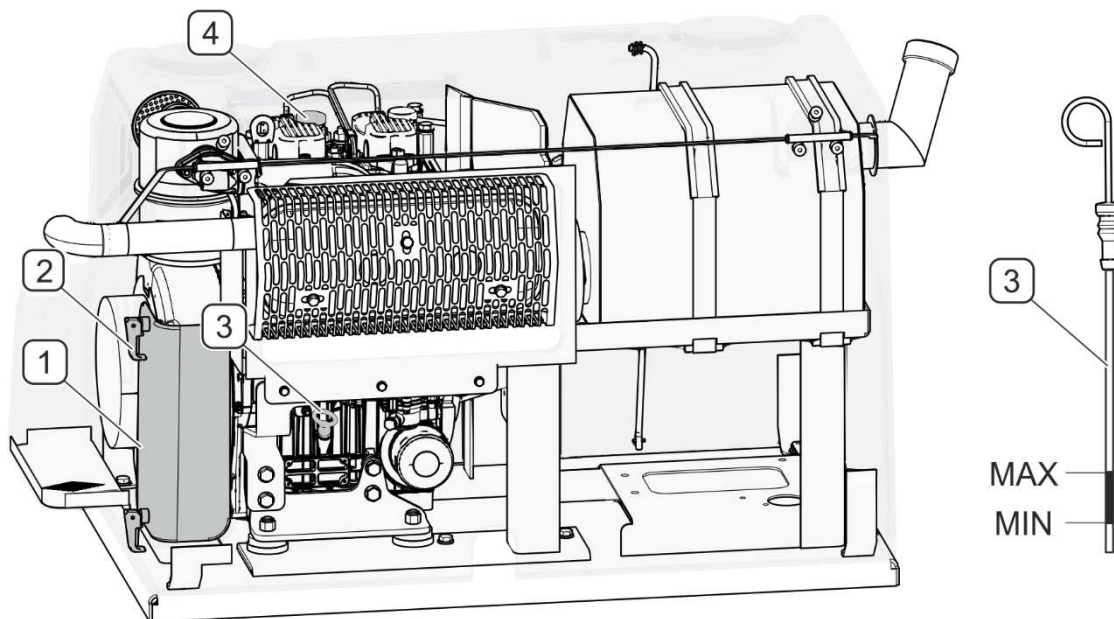

FIGURE 4.3 Checking engine oil level
- Unlock the locks (2) and remove the engine casing cover (1) (FIGURE 4.3).
- Take out oil dipstick (3) and wipe it until dry.
- If engine oil level is too low, unscrew filler plug (4) and add proper amount of oil.
- Tighten the filler plug (4) and insert the oil dipstick (3).